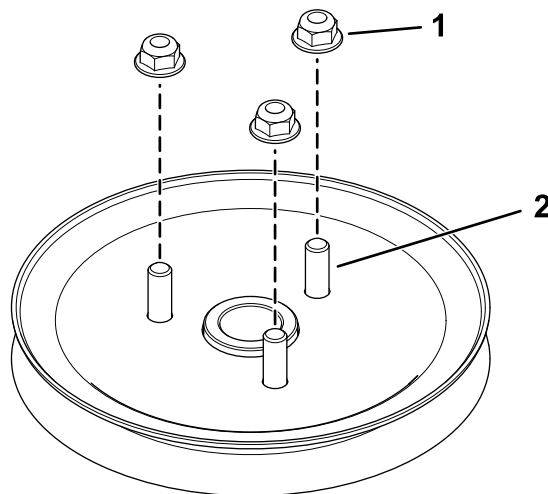

Figure 3
3. Loosely install the 3 nuts to the studs (Figure 3). Leave a clearance of 5 mm (3/16 inch) between the nut and sheave.